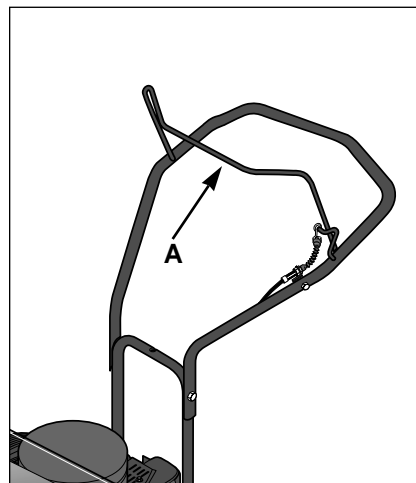

Figure 4-3
- A. The trimmer head control bail (A, Figure 4-3) is used to start and stop trimmer head motion.